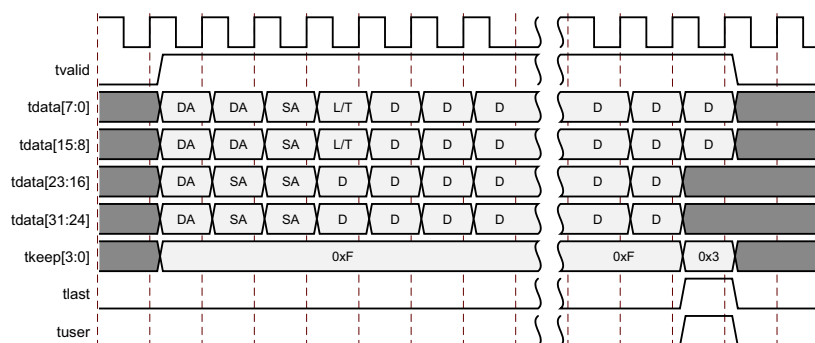

Figure 2-7: Frame Reception with Errors – 32 Bits
- An explicit error in which a frame transfer is aborted by asserting `tx_axis_tuser` High while `tx_axis_tlast` is High. See Figure 2-7.
The case of an unsuccessful frame reception (for example, a runt frame or a frame with an incorrect FCS) is shown in Figure 2-7. In this case the bad frame is received and the signal `rx_axis_tuser` is asserted to the client at the end of the frame. It is then the responsibility of the client to drop the data already transferred for this frame.